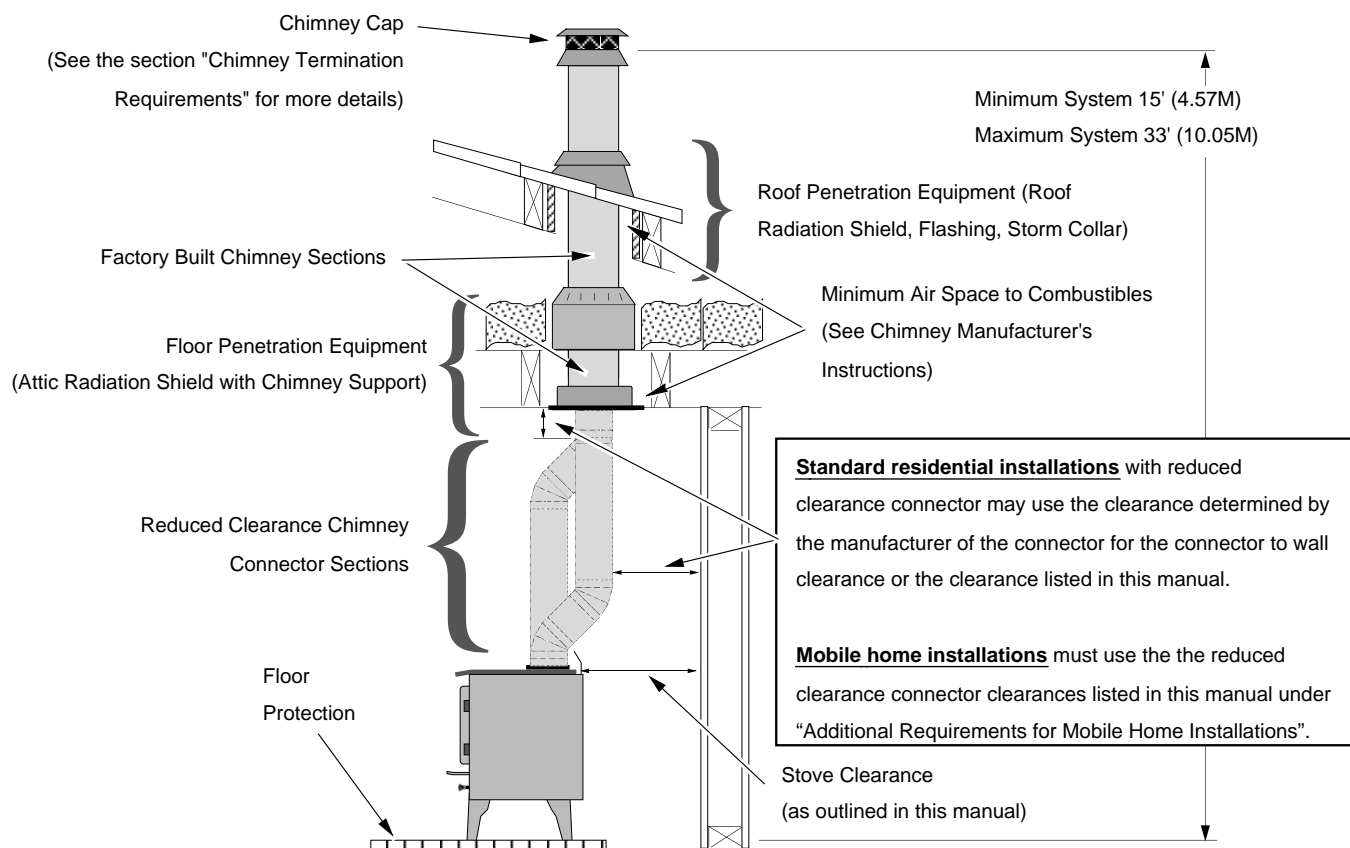

Figure 6
- Chimney connector is required from the flue collar of the stove to the factory-built chimney (see Figure 6) or masonry chimney (see Figures 13, 14, and 15).